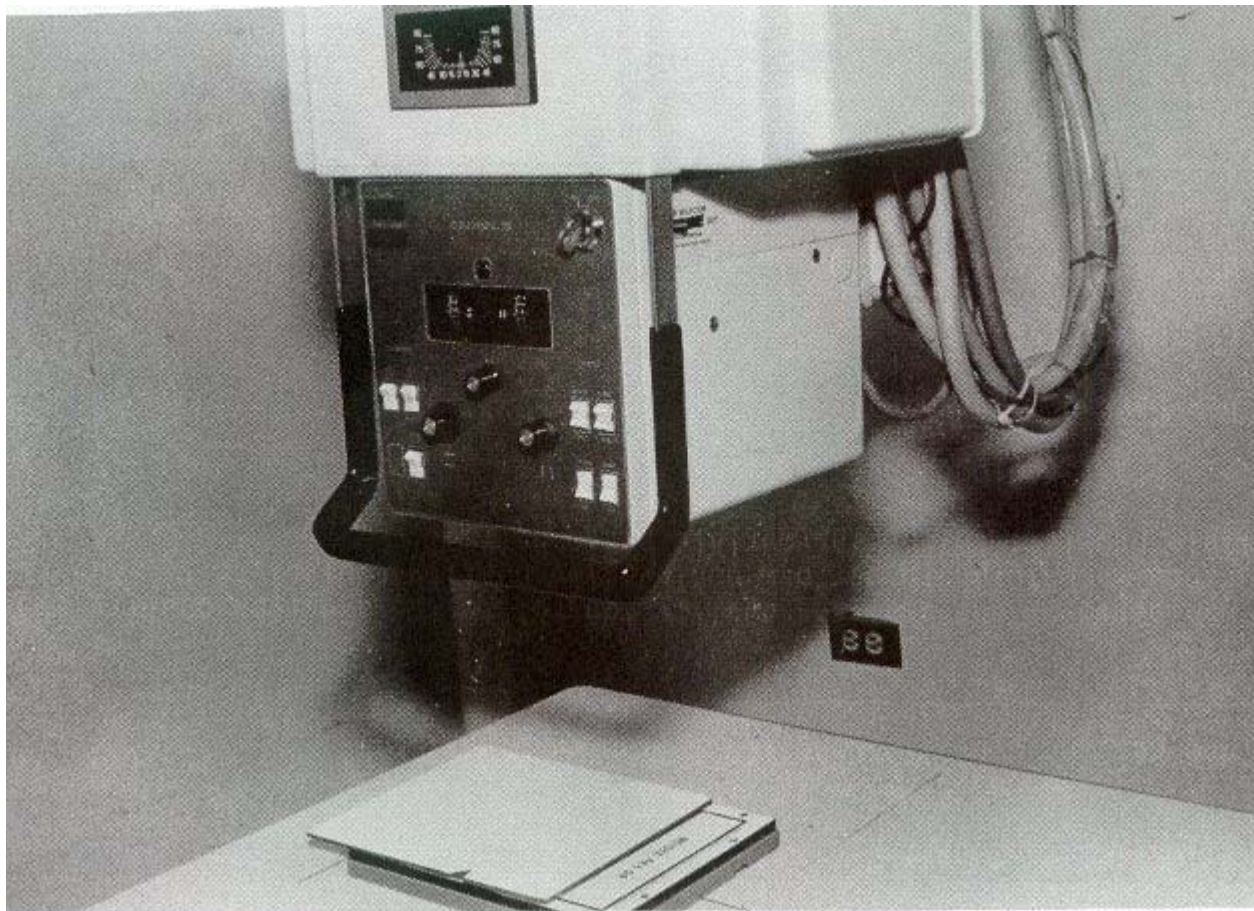

Figure 4-2. Testing the 60 kVp region.
- d. Center the 60 kVp region under the x-ray tube (see figure 4-2).